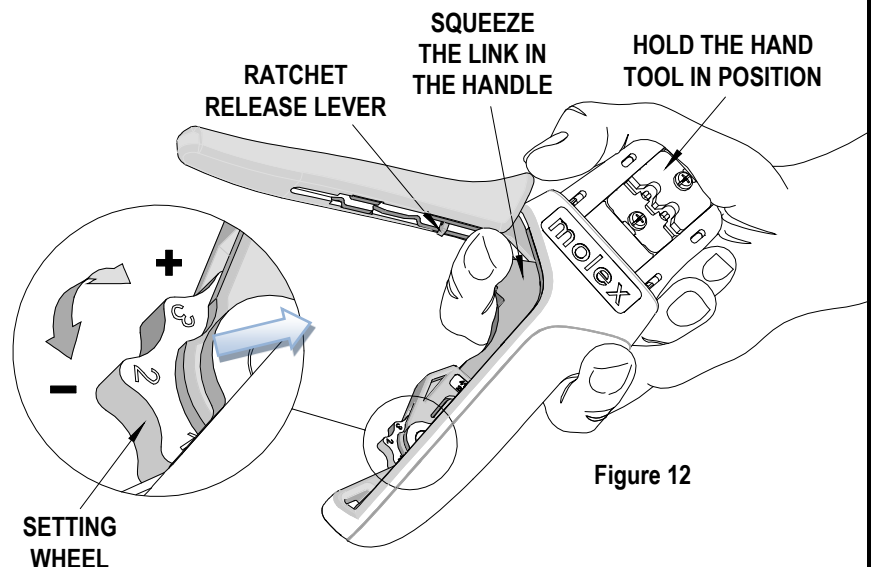

Figure 12
How to Adjust Tool Preload (See Figure 12)
1. Hold the hand tool in the palm of your hand as shown in Figure 12. Using the index finger squeeze the link toward the top of the hand tool frame. This will release the preload adjustment wheel.
2. Rotate the setting wheel counter-clockwise (CCW) to increase handle force. The numbers will display higher. To decrease handle force, rotate the setting wheel clockwise (CW).